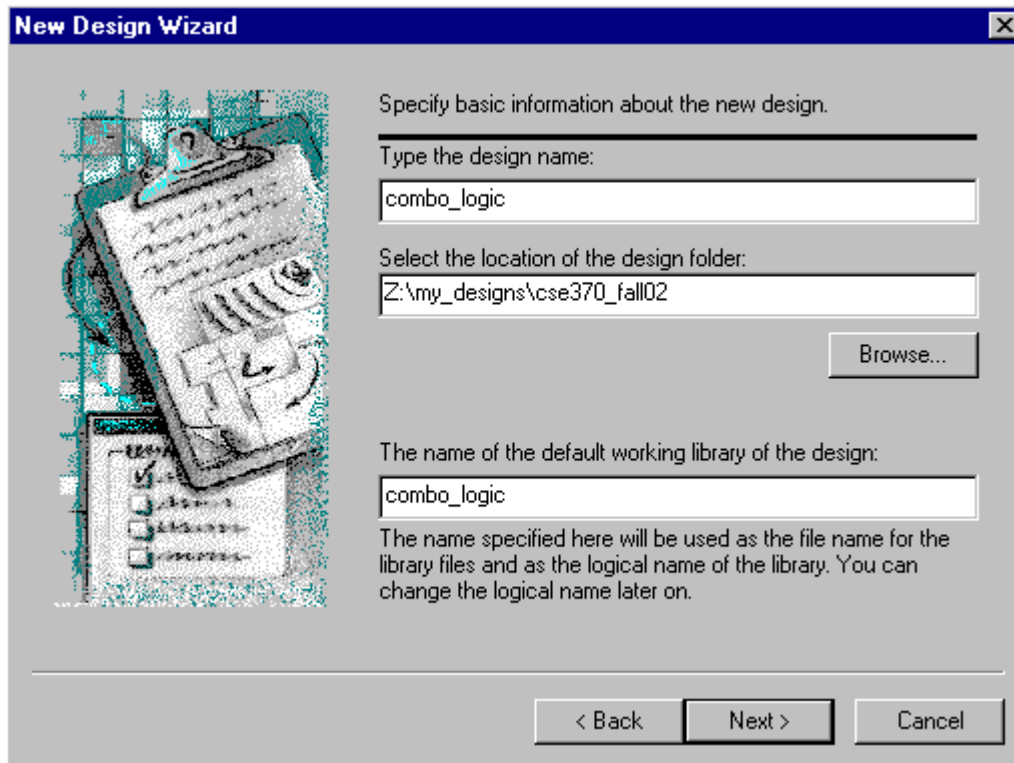

Figure 5
4. By default, the design directory is under the workspace directory, and the name of the default working library of the design is the same as the design name. Leave these default values alone. Your window should now look like Figure 5.